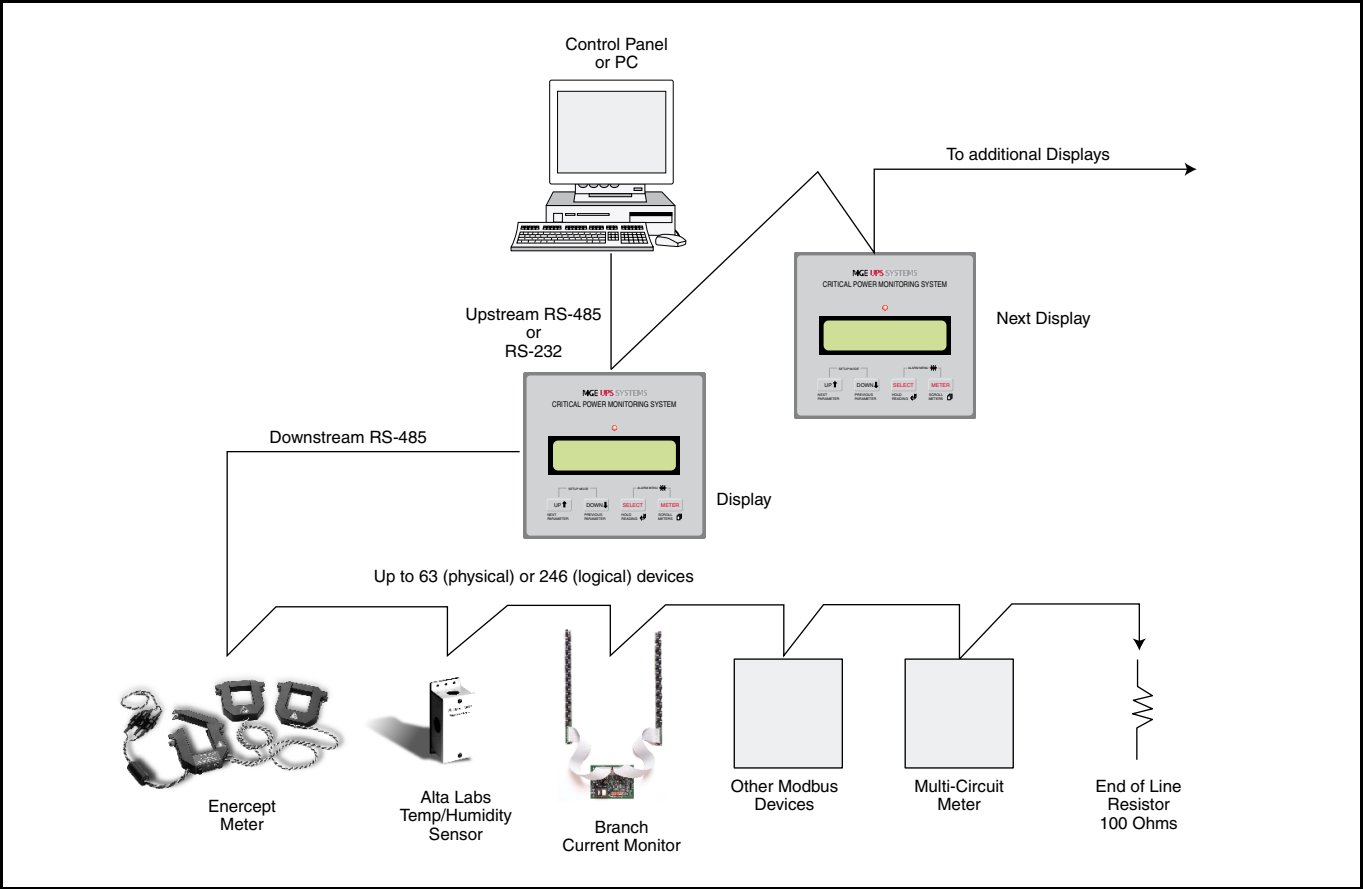
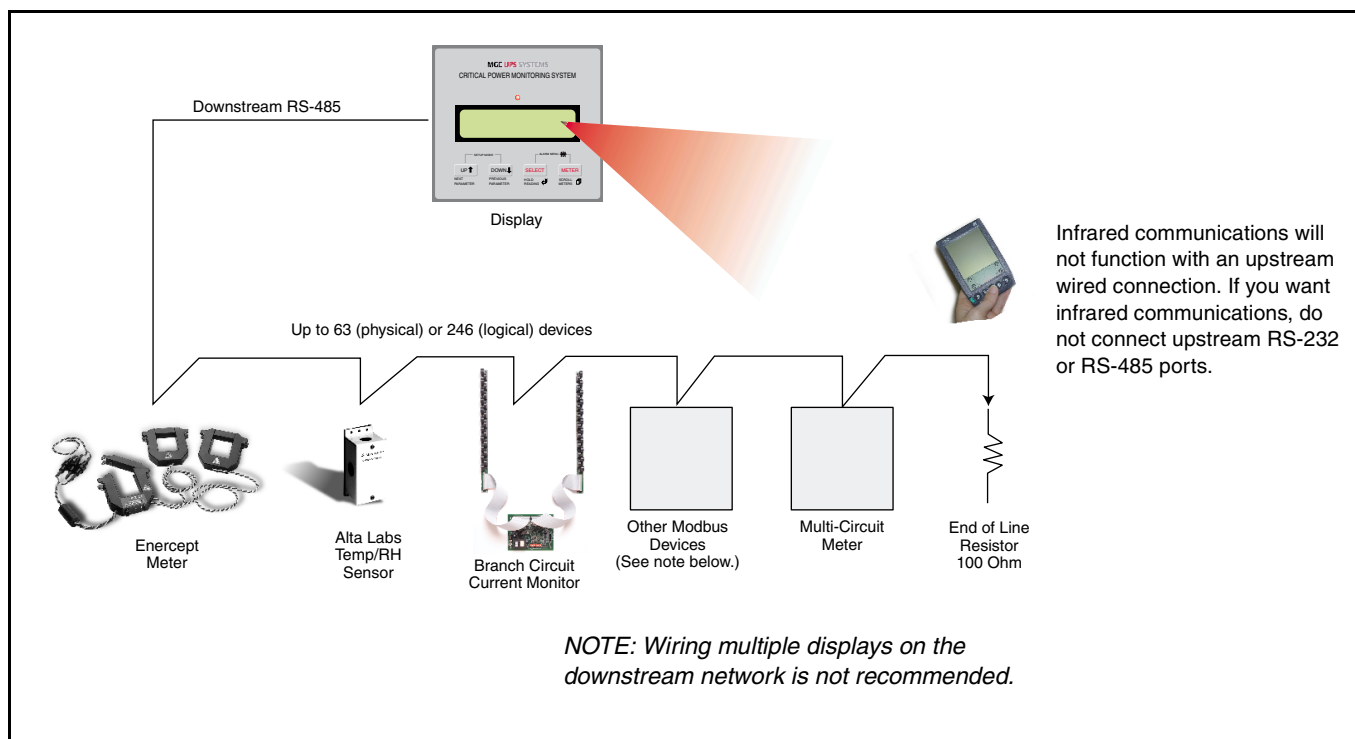
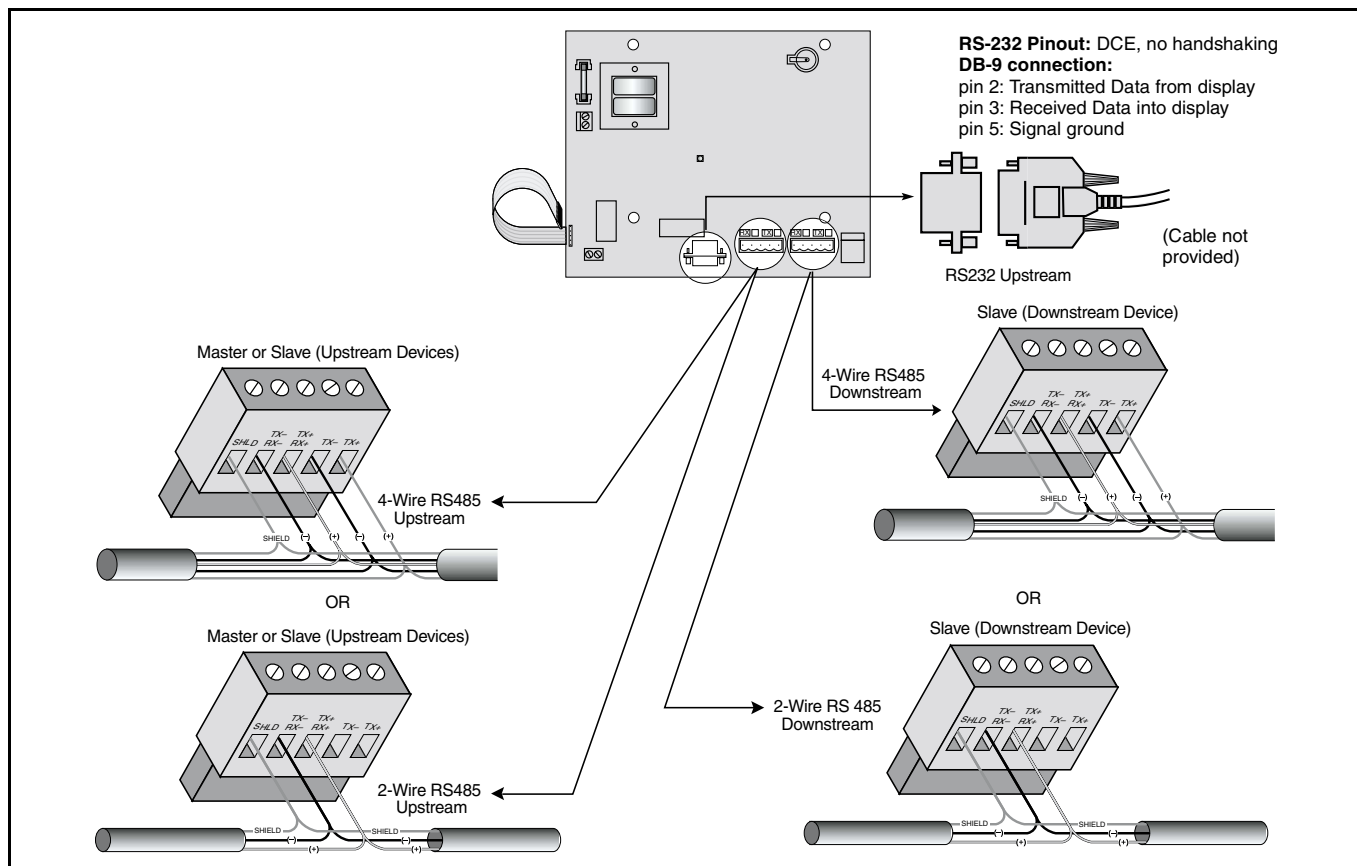

Figure 5: Upstream monitoring network option
Figure 6: IR monitoring network option
Figure 7: Wiring of downstream and upstream devices
The display resides on a Modbus network as a pass-through device (Figure 5 and Figure 6). It provides an upstream and downstream communication connection. This allows for flexible data retrieval as the upstream options include RS-232, RS-485, or Palm Handheld compatible IR. Figure 7 on page 8 shows the downstream and upstream wiring scheme.
1. Insert the wires of the daisy chain as shown in Figure 7 and insert the wires of the terminator into the holes of the RS-485 communications connector.